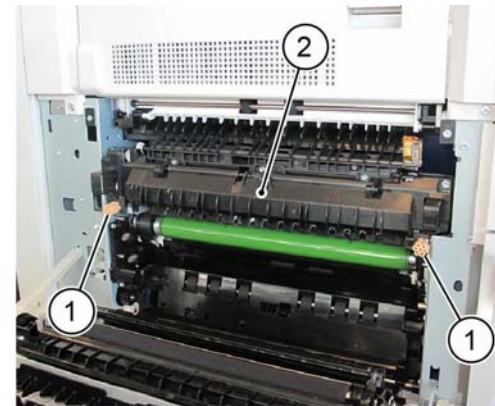

Figure 1 Fuser removal
2. Remove the fuser, Figure 1:
- a. Loosen two screws (1).